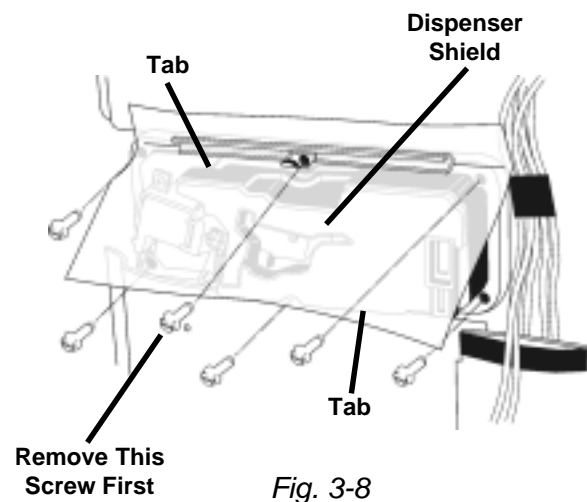

Fig. 3-8
2. Remove the center top hex head screw and remove the dispenser shield and disconnect the wiring harness connectors from the detergent dispenser solenoid. (Fig. 3-8)
3. Remove the remaining five (5) screws securing the dispenser assembly to the inner door liner. (Fig. 3-8)